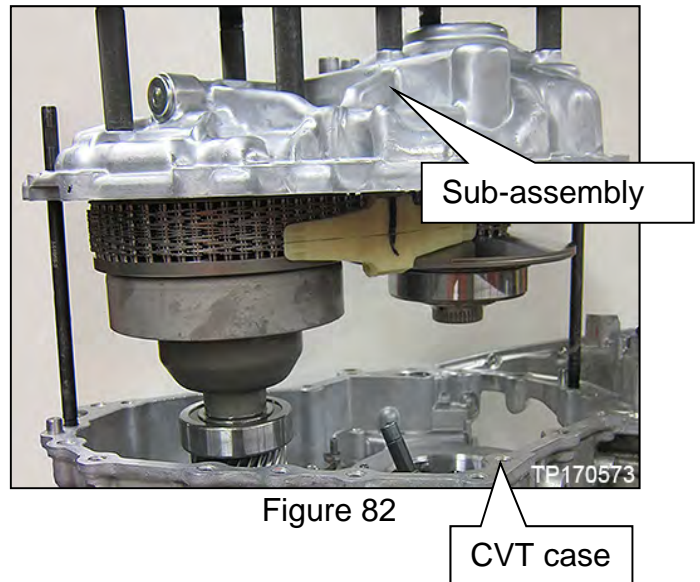

Figure 82
58. Raise the lifting fixture to remove the “side cover with pulleys and chain sub-assembly” (sub-assembly) from the CVT case (Figure 82) and set aside.
59. Remove the lifting fixture from the sub-assembly and replace all six (6) original bolts.